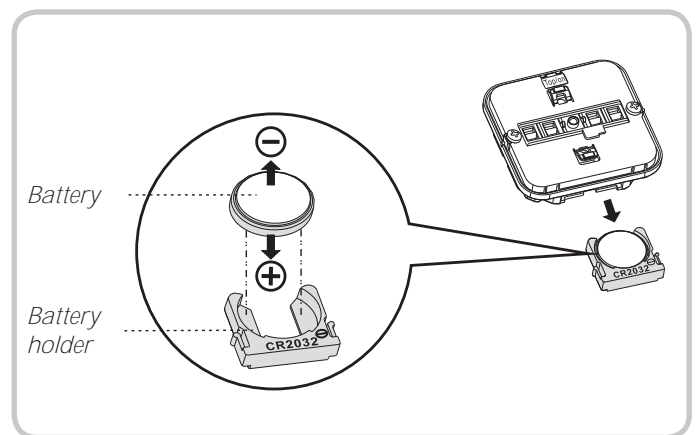

Fig. 31
- Then replace the battery (model CR2032, 3V). Take care with polarity (see Fig. 31).